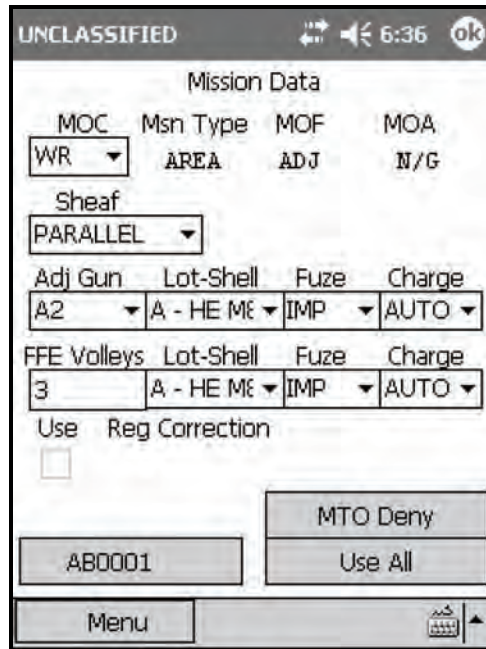

Figure 18-24. Digital Fire Mission: Mission Data screen.
- (9) The Mission Data screen (Figure 18-24) displays.